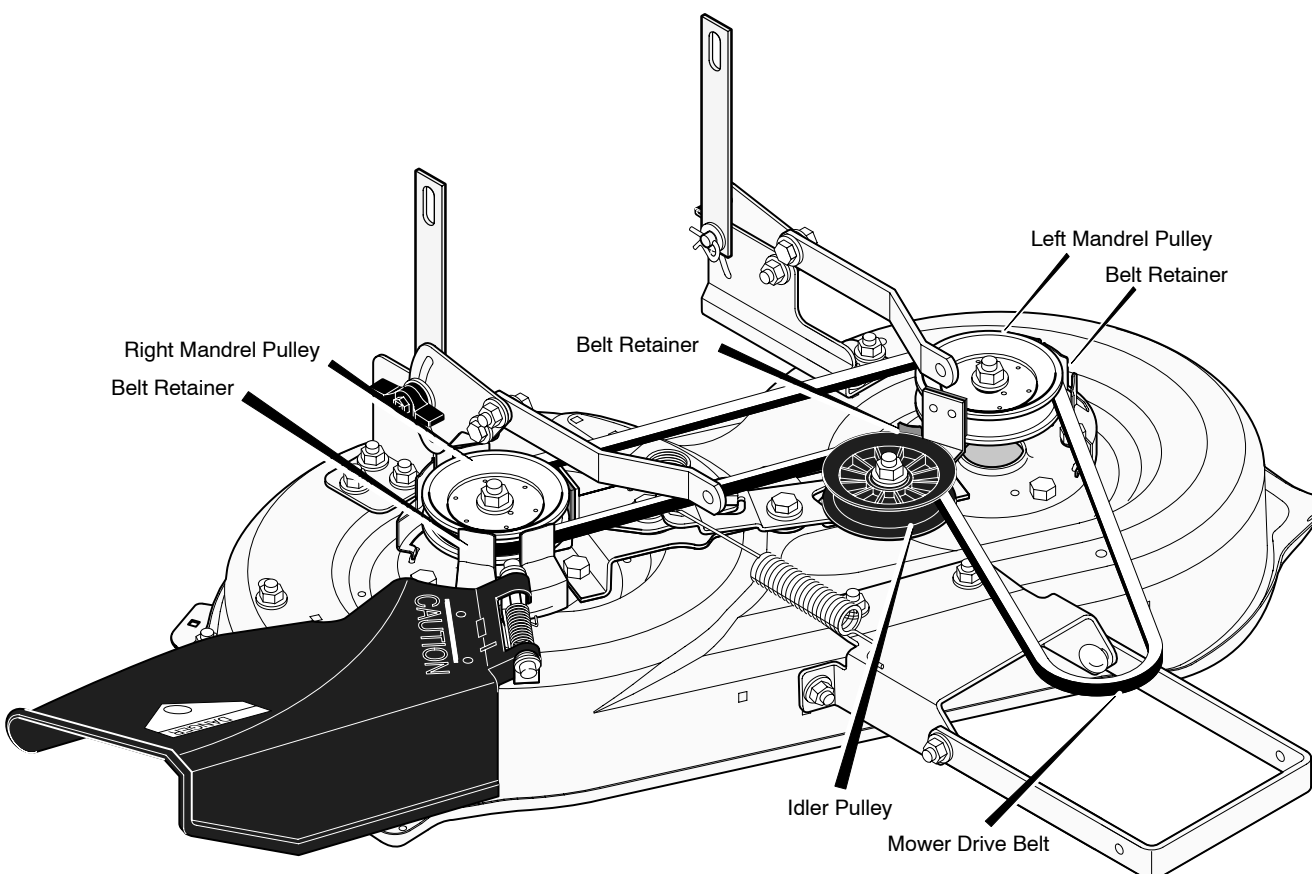

Figure 34
2. Pull the **belt retainer** away from the **idler pulley** and remove the **mower drive belt** (Figure 34).